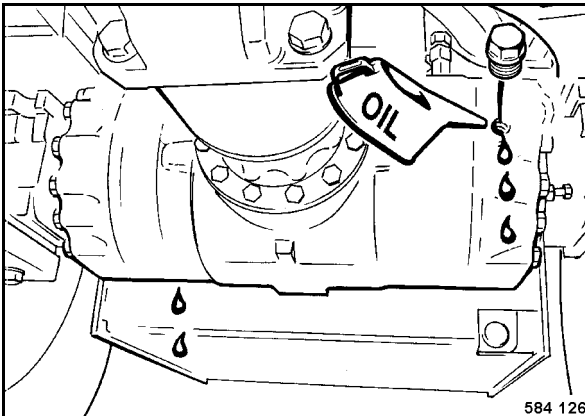

Fig. 166
- Fill in oil through the oil level inspection bores (Fig. 166), until it has reached the bottom edge of the bore.